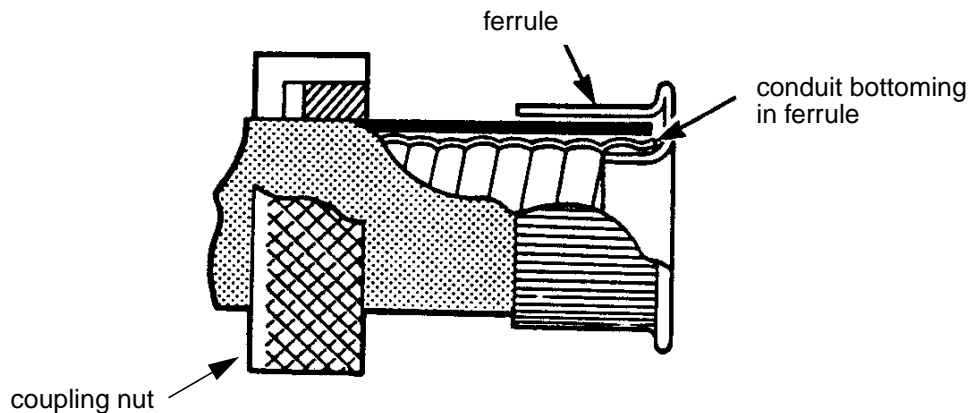

Figure 1 - Coupling-Nut and Ferrule Assembled on Conduit
- Step 5. Assemble the coupling nut and ferrule to the conduit, ensuring that the conduit end is bottoming in the ferrule (see Figure 1).